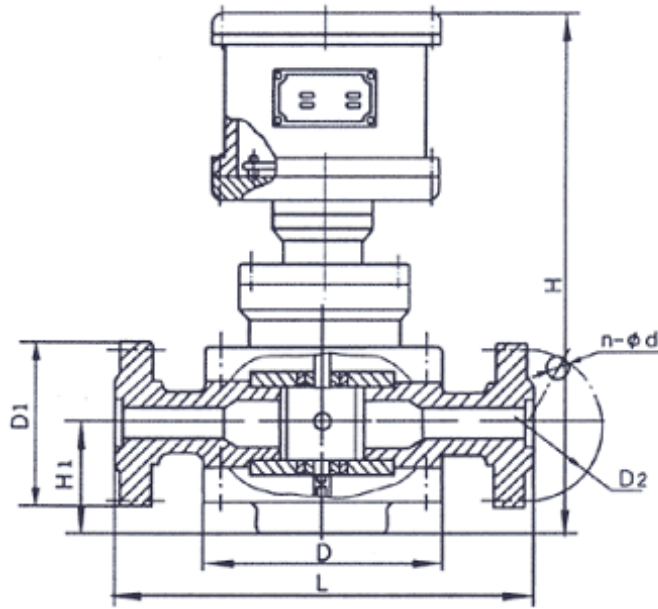

Fig.10 Flow Meter Dimensions (1)
- A. Dimensions and Installation Reference for Flow Meters in Configuration No. I & No. II , see Fig.10 and Table 3;